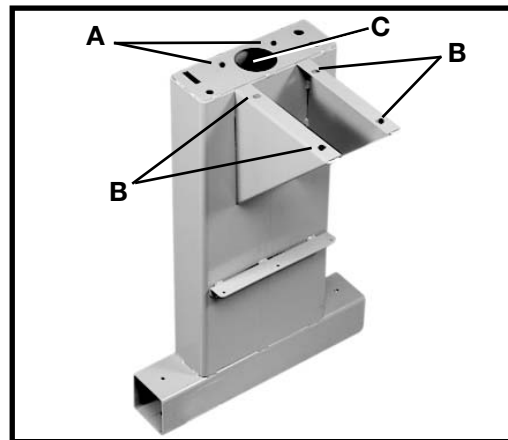

Fig. 6
3. Because of the weight, use an assistant to place the lathe bed on top of the pedestals. Make sure that the holes in the lathe bed are aligned with the holes in the tops of the pedestals (Fig. 6) A and B.
The hole in the pedestal (C) Fig.6 can be used to fill the pedestal with sand or concrete to provide more ballast. **NOTE:** If sand is used, pour a small amount of concrete or similar material in the pedestal to prevent sand leakage through the seams.